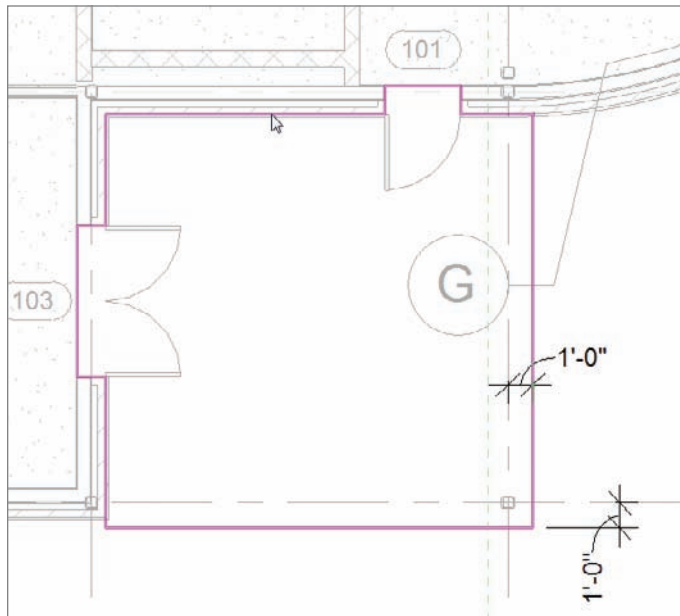

FIGURE 10.81 Sketching the slab perimeter
2. Zoom in on the radial entry of the east wing at grid intersection F-5 (see Figure 10.81).
13. Place the concrete at the points shown in Figure 10.81.